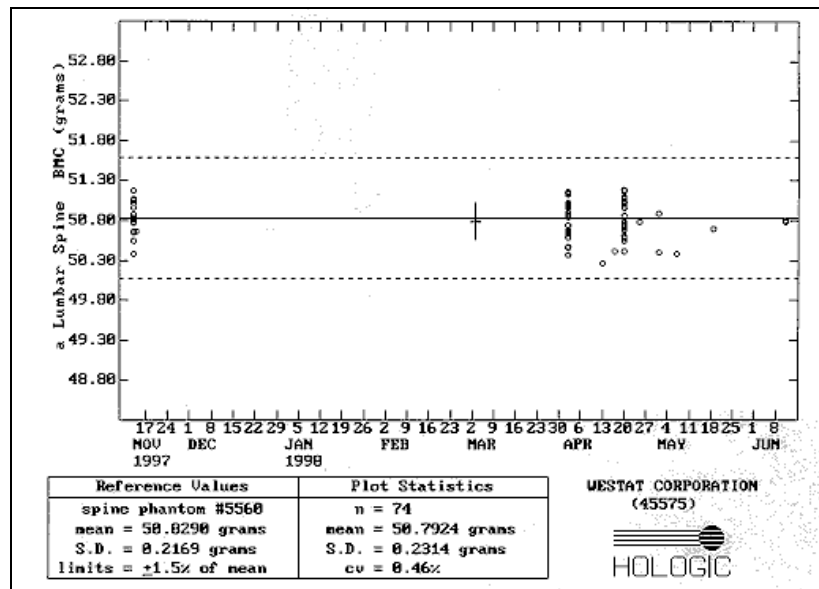

Figure 6-10. Spine phantom QC – plot for BMC
- Check the BMC graph for the circle for today's scan (at the far right side of the graph). See Figure 6-10.